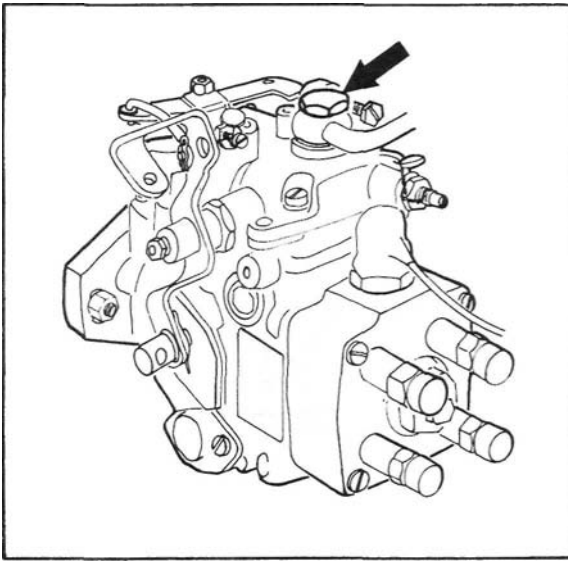

Fig. 11
4. Loosen the return connection of the fuel injection pump (see Fig. 11).